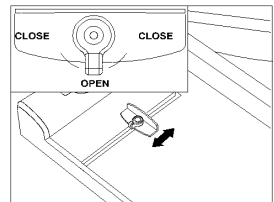

Fig. 2
3. Adjust the aligning rail to the position you require (Fig. 2):